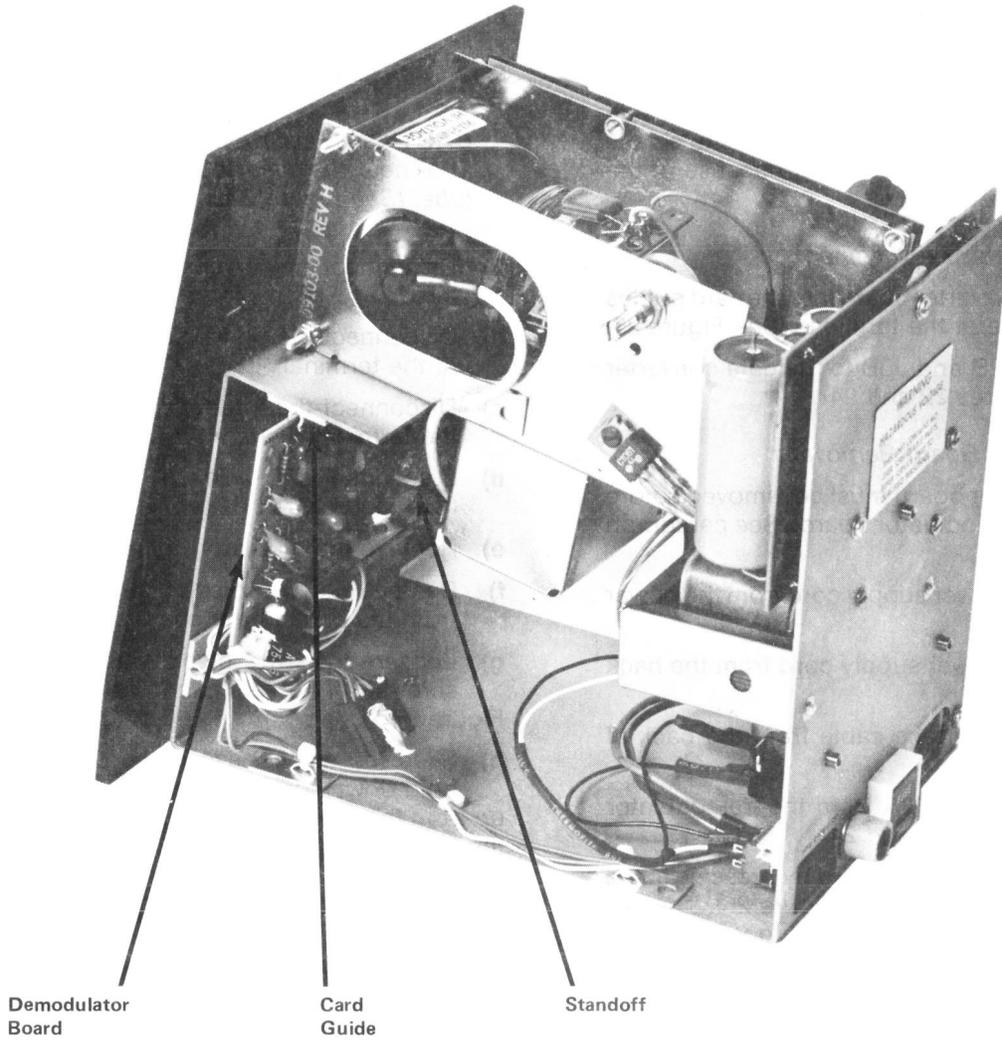

Figure 26, Chassis With Data Converter Board Removed
- f) Remove the demodulator board by pressing in the keeper on the standoff. (See Figure 26). The demodulator board may now be pulled loose from the standoff by swinging the bottom of the board rearward, away from the front panel. Pull downward gently to release the upper edge from its guide.
- b) Place the upper (Straight) edge of the demodulator board in the chassis and guide with components facing rearward, and traces facing the front panel; push upward to seat in guide. (See Figure 26)